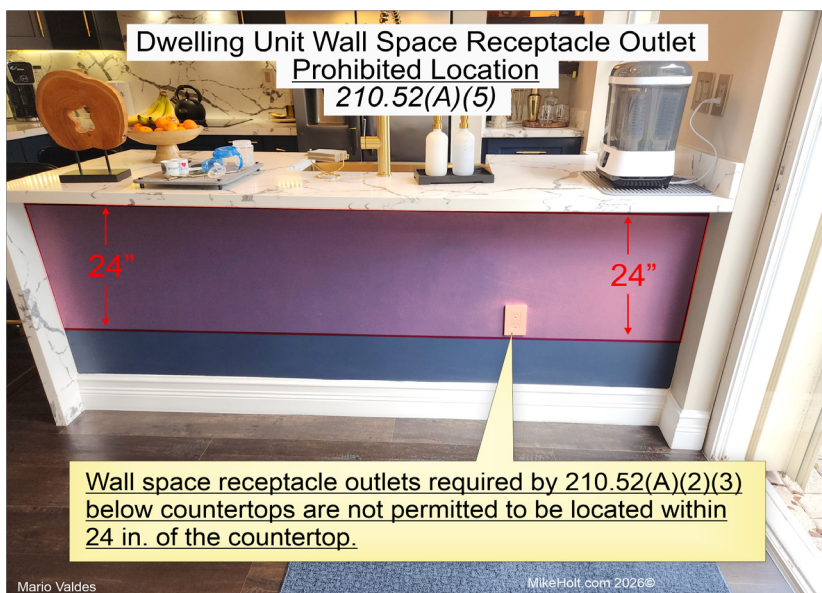

Fig. 9.
(5) Prohibited Receptacle Outlet Locations. Wall space receptacle outlets required by Sec. 210.52(A)(2)(3) installed below countertops are not permitted to be located within 24 in. of the countertop (Fig. 9 on page 42).